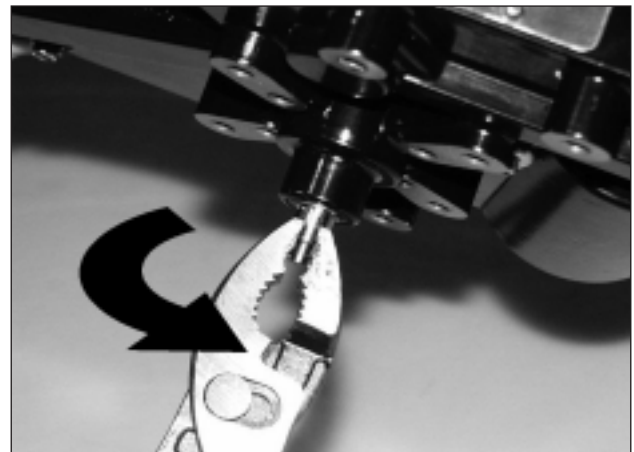

Figure 6: Turn Positioner Shaft
4. Carefully grasp positioner shaft with pliers as shown in Figure 6. Turn shaft to determine direction of rotation.